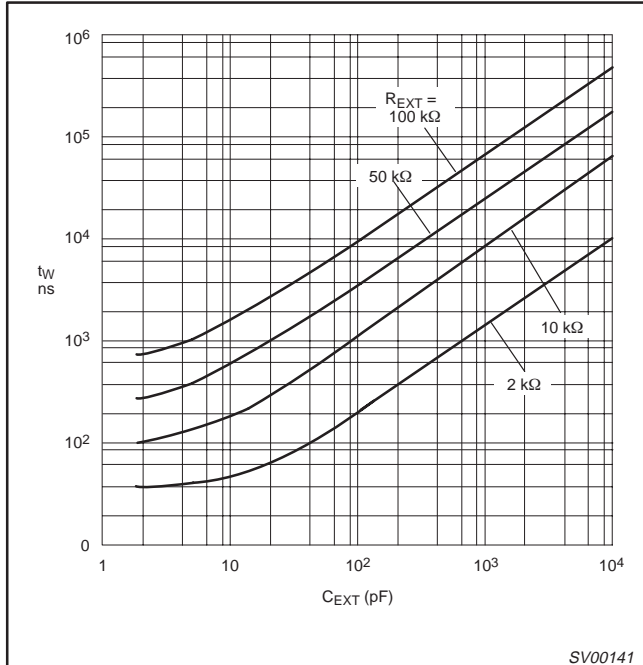

Figure 5. Typical output pulse width as a function of the external capacitor values at VCC = 3.3 V and Tamb = 25 °C.
- For other  $R_{EXT}$  and  $C_{EXT}$  combinations see Figure 5.